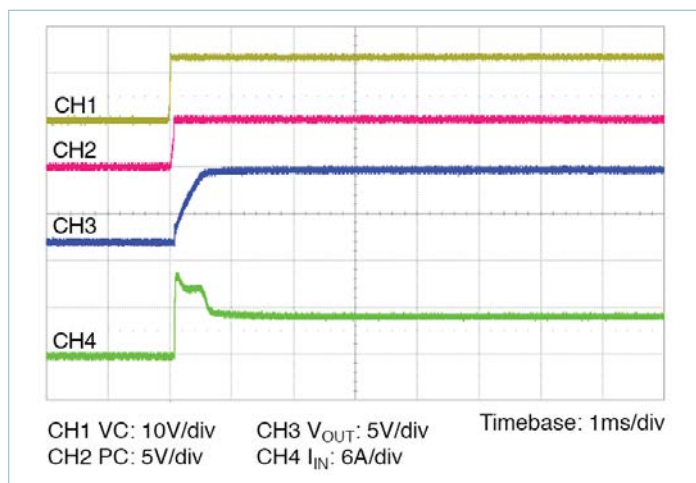

Figure 14 — Start up from application of V_C ; V_{IN} pre-applied $C_{OUT} = 2300\mu\text{F}$
- **Stand-alone operation (VC applied after V_{IN}):** In this case the VTM output will begin to rise upon the application of the VC voltage (See Figure 14). The Adaptive Soft-Start Circuit may vary the output rate of rise in order to limit the inrush current to its maximum level. When starting into high capacitance or a short, the output current will be limited for a maximum of 1200μs. After this period, the Adaptive Soft-Start Circuit will time out and the VTM module may shut down. No restart will be attempted until VC is re-applied or PC is toggled. The maximum output capacitance is limited to 2300μF in this mode of operation to ensure a successful start.